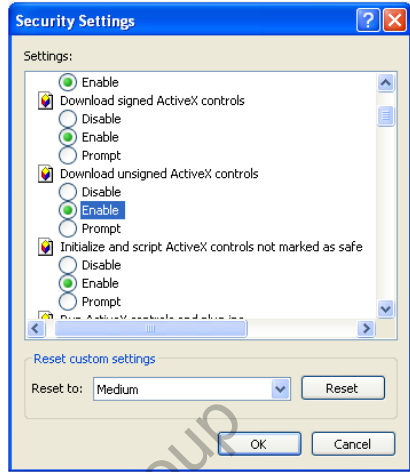

Fig 4-2
- ③ Enable all the sub options under "ActiveX controls and plug-ins". Refer to Fig 4-2.